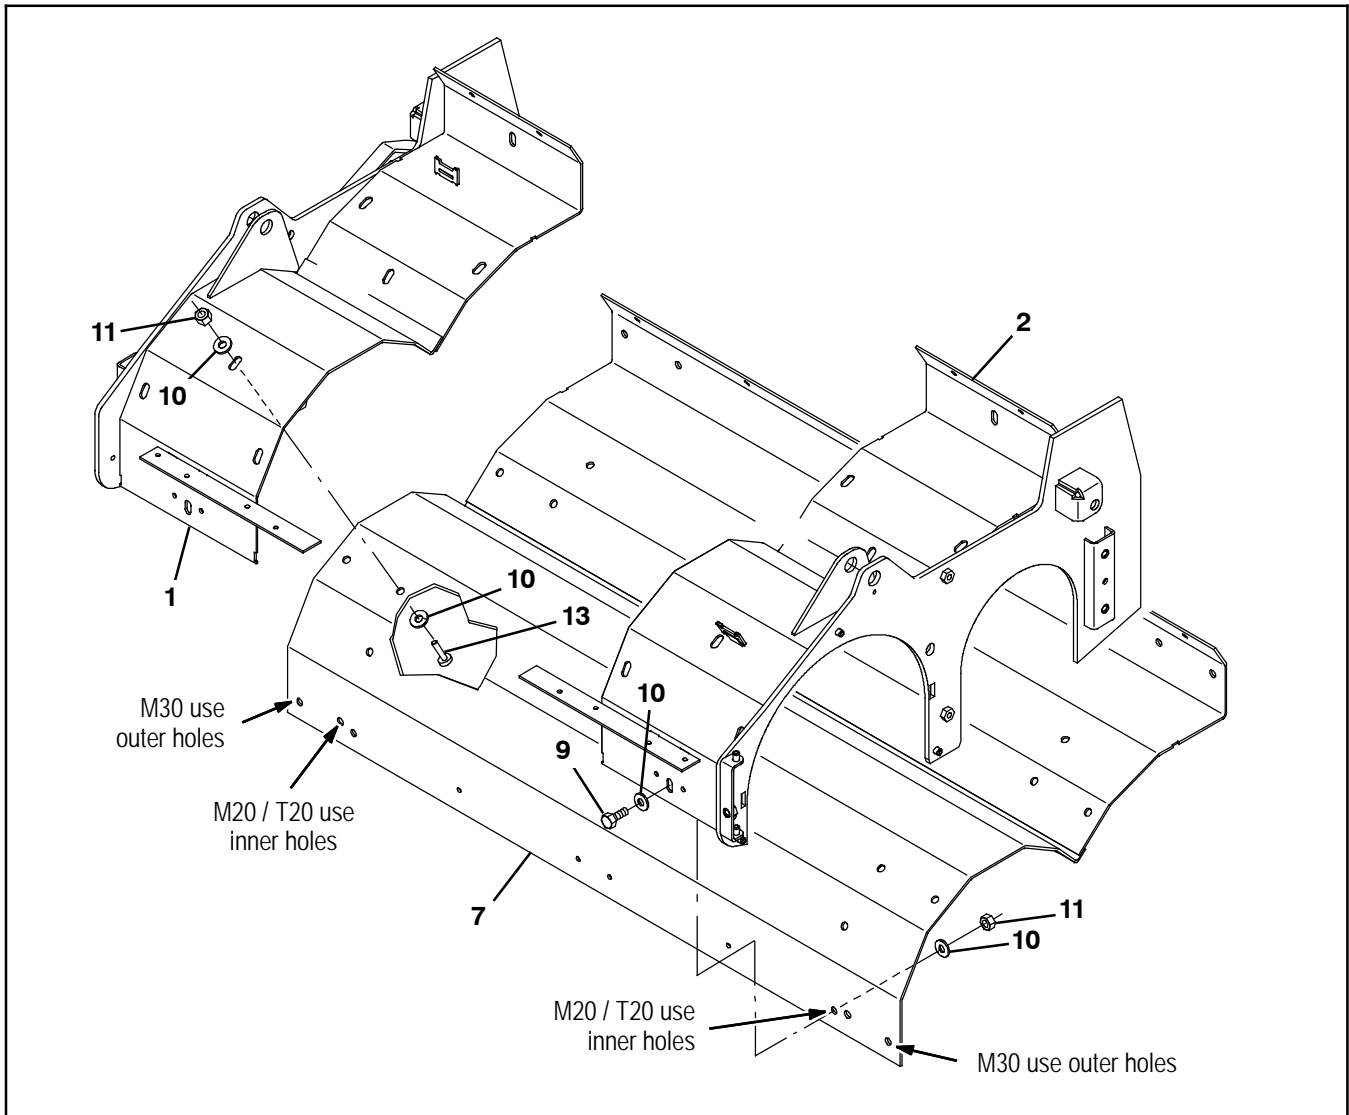

FIG. 8
17. Use five M8 button screws (13), ten flat washers (10), and five M8 hex nuts (11) to install the right brush wrap bracket (1) and left brush wrap bracket (2) onto the brush wrap plate (7). (Fig. 8)